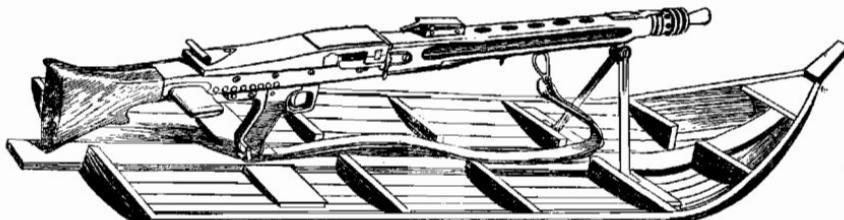

Figure 3.—Pulk Used for Winter Transport of German Heavy Machine Gun.
FIGURE 3. Pulk Used for Winter Transport of German Heavy Machine Gun-----	8
In Russia the Germans are using a new armored self-propelled gun, which bears at least an outward resemblance to the Pz. Kw. 6, the German tank often referred to as the "Tiger."2 The new self-propelled gun (see fig. 3) mounts an 88-mm cannon in a fixed turret, and has an over-all weight of 70 tons. Its maximum speed is reported to be not more than 12 miles per hour.
(4) *Heavy Machine Gun.*—The heavy machine gun is carried in the usual manner or is loaded on a small sleigh, skis, or a pulk. A pulk (see fig. 3) is a type of sled used by the Lapps; its front half somewhat resembles that of a rowboat.